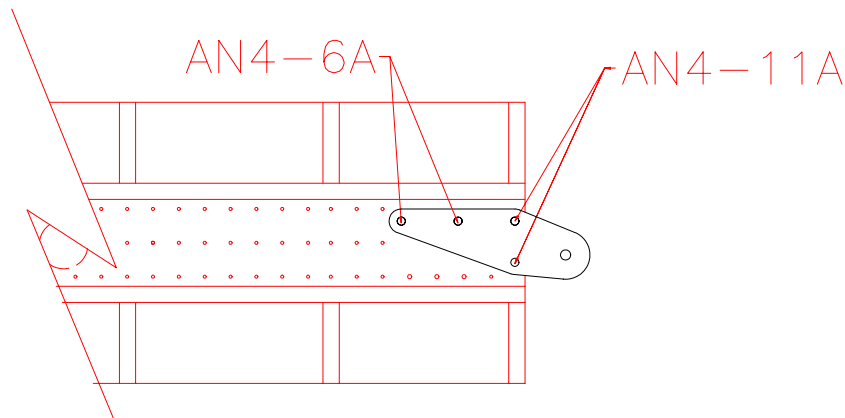

Figure 8.13.5
13) Chromate mating surfaces and rivet Front Spar, Leading Edge Ribs, Tripler and Doubler together with 1/8" Avex Rivets. Bolt the Front Spar Fittings, Doubler, Spar, Tripler, Root Rib Angle Bracket and Packer together with two AN4-6A bolts, two AN4-11A bolts, four AN960-416 washers and four AN365-428 nuts. **NOTE:** Bolt heads should face forward. Figure 8.13.5.